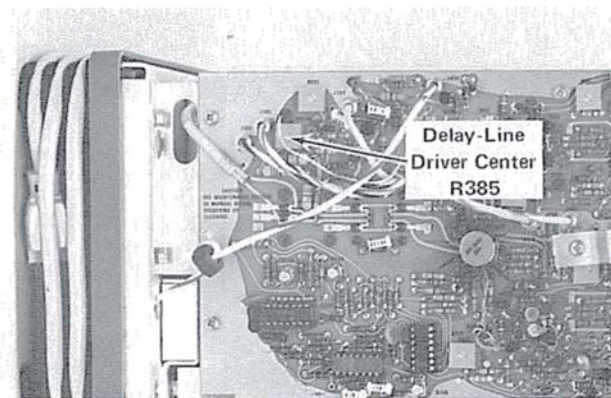

Fig. 5-7. Location of Delay-Line Driver Centering adjustment.
c. ADJUST—Delay-Line Driver Centering adjustment, R385 (see Fig. 5-7), for a reading of 0 volts at both ends of the delay line.
h Fig. 5-7.a Location of Delay-Line Driver Centering adjustment.